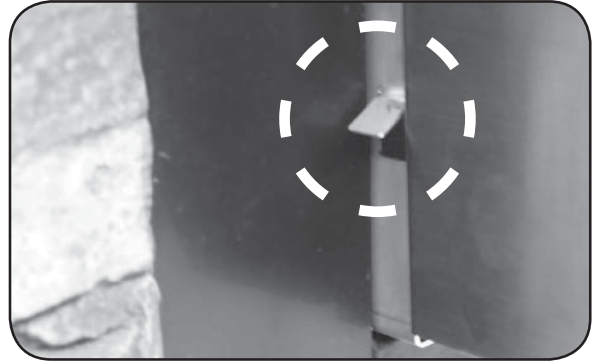

Fig. 24-1 Tab may interfere when sliding in unit
**Note:** Each side of the unit has a tab just behind the control panel. These tabs prevent the control panel from moving inward. If the tabs interfere with the unit sliding in (see Fig. 24-1), use pliers to bend them inward so that they clear the enclosure sides. Leave the tabs slightly out to ensure they still keep the control panel from moving inward (see Fig. 24-2).